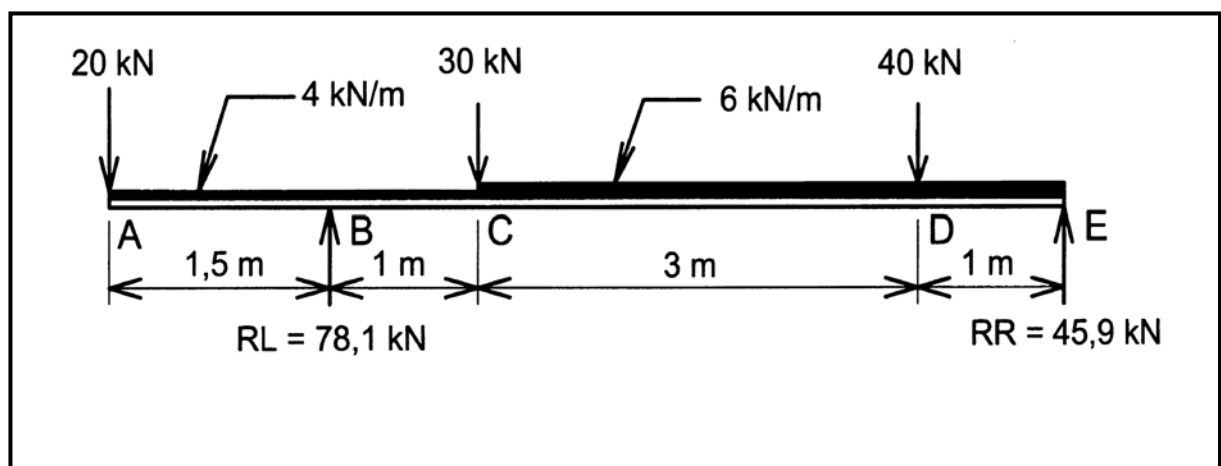

FIGURE 5.3
- 5.3 Beam AE is 6,5 metres long and is supported 1,5 metres from end A and at end E, as shown in FIGURE 5.3.